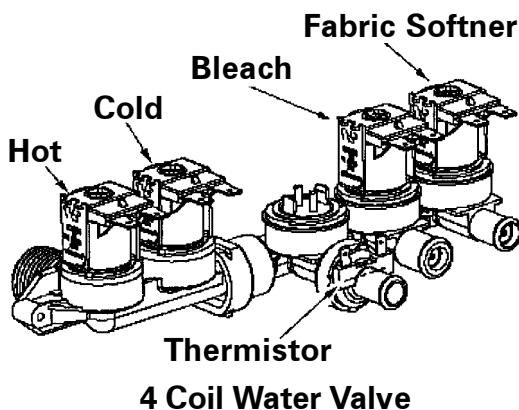

Figure 4-1
The water valve test is similar to the test outlined in the 16008373 manual, except, to check the ohm resistance of thermistor, pull the P3 wire harness connector off the machine control and locate the P3(6) and P3(7) leads in the connector on the machine control board. Note the thermistor has been relocated on the valve to the outlet of the valve. (**See Figure 4-1**)